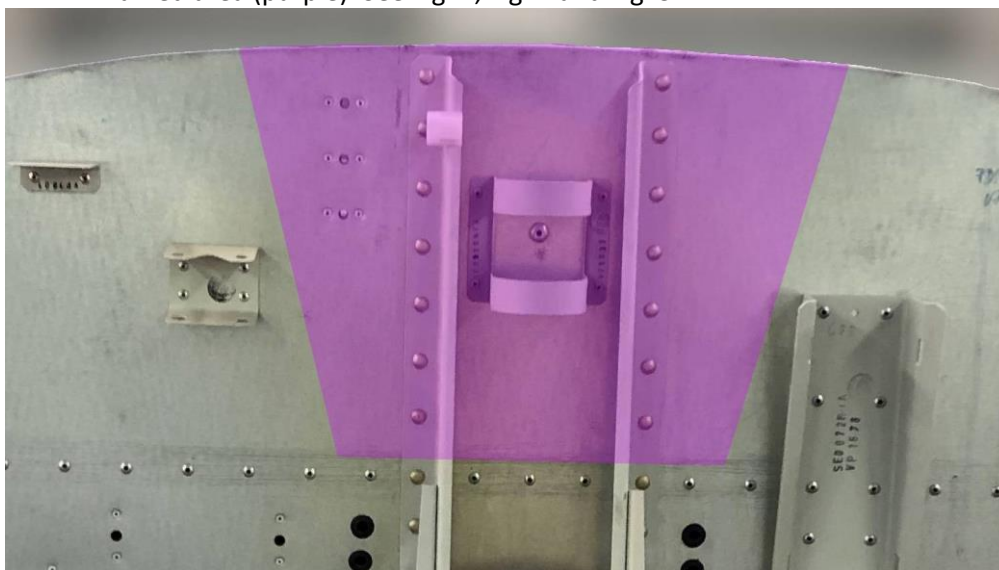

Fig. 1: Drilled rivets from engine side
- 5) Drill out the rivets from the firewall and remove the holders and nuts from the marked area (purple). See Fig. 1, Fig. 2 and Fig. 3.